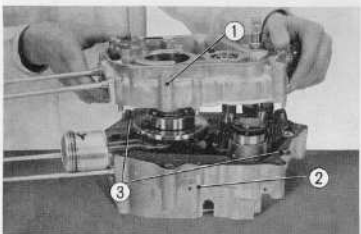

Fig. 3.85 Reassembling the crankcase
2. Assemble the right crankcase ① to the left crankcase, ② (Fig. 3.85)
Caution: Do not forget to install the two dowel pins, ③ (Fig. 3.85)